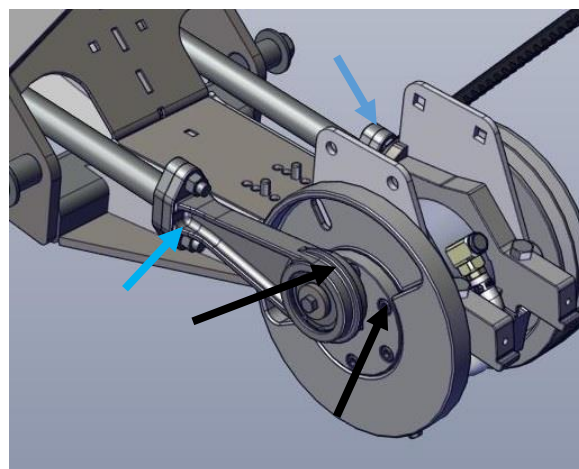

Figure 65
4. The lower knife drive bearing can be replaced by removing the connecting arms. Figure 65